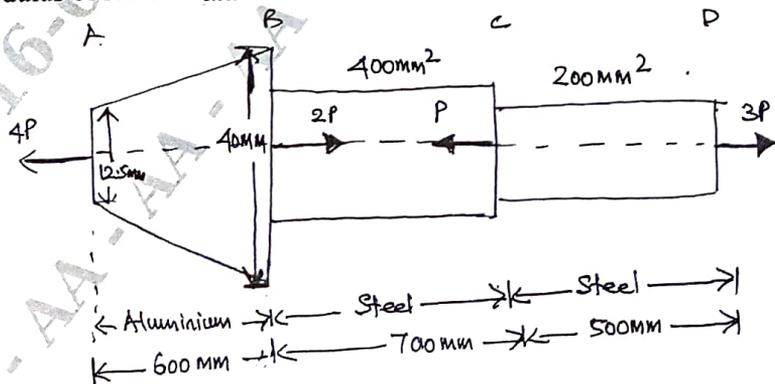

Fig. Q2 (a)
- 2 a. A round bar with stepped portion is subjected to forces as shown in Fig. Q2 (a). Determine the magnitude of force 'P', such that net deformation in the bar, does not exceed 1 mm. Young's modulus of steel – $E_{\text{steel}} = 200$ GPa and that of Aluminium is 70 GPa. (10 Marks)